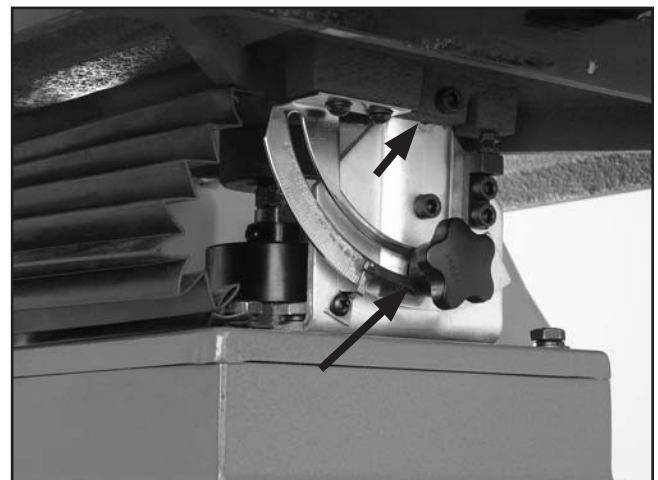

Figure 38. Table tilt grease points.
2. Apply a light layer of multipurpose grease to the areas indicated in **Figure 38** and to the corresponding areas on the other side of the table tilt assembly. Tilt the table several times to disperse the grease.